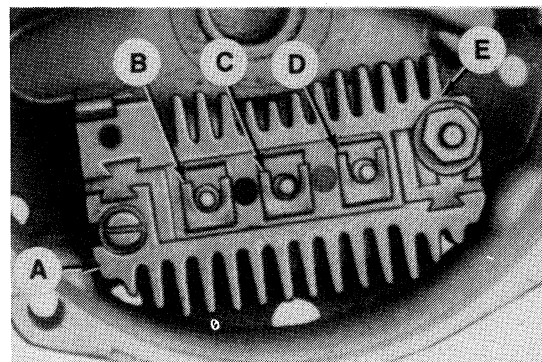

Fig. 93—View of rectifier bridge of Delco-Remy alternator showing test points. Refer to text.
The rectifier bridge has a grounded heat sink (A—Fig. 93) and an insulated heat sink (E). To test rectifier, check for continuity between point A and points B, C and D, then reverse tester leads and recheck same points. There should be continuity in one direction only. Repeat tests between point E and points, B, C and D. Tests should show continuity in one direction only at each test point. If not, renew rectifier bridge.